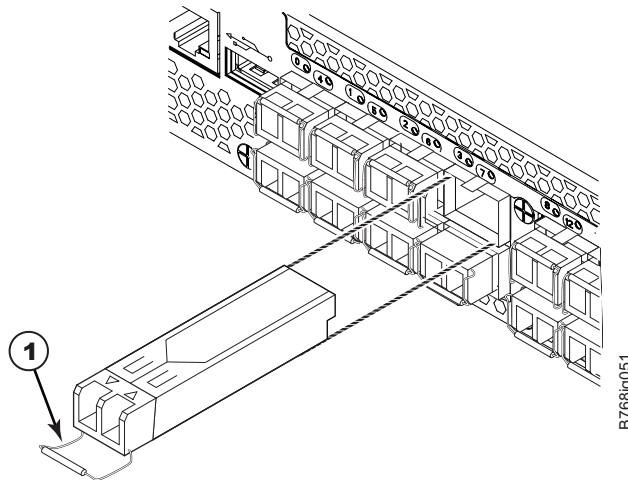

Figure 43. Removing and replacing an SFP+ optical transceiver
2. Using the hooked end of the tool, pull the bail (wire handle) **1** away from its pivot point and out, sliding the transceiver out of the port (Figure 43 on page 92).